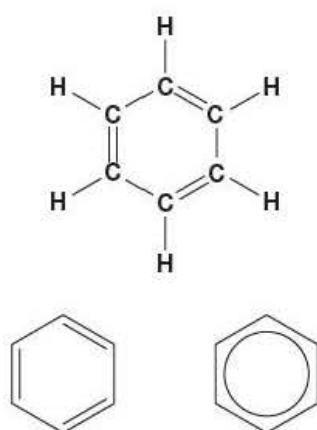

Figure 6.2 ▲
- Arenes are hydrocarbons, such as benzene, methylbenzene and naphthalene. They are ring compounds in which there are delocalised electrons (Figure 6.2). Arenes are sometimes called 'aromatic hydrocarbons' because of their smells (aromas).